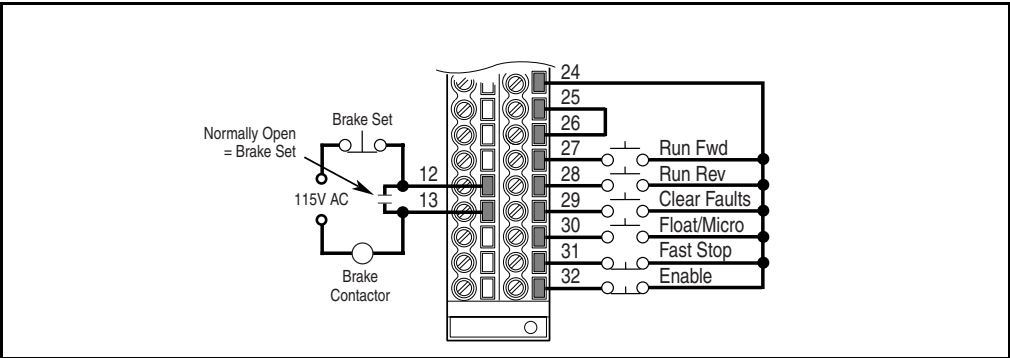

Figure 13.2 – Typical Torque Proving Configuration
When TorqProve Cnfg is set to “Enable,” the Digital Out 1 relay is used to control the external brake contactor. The normally open (N.O.) contact, when closed, is intended to energize the contactor. This provides the mechanical brake with voltage, causing the brake to release. Any interruption of power to the contactor will set the mechanical brake. Programming Digital Out1 Sel (380) will be ignored when [TorqProve Cnfg] is set to “Enable.” See figure 13.2.